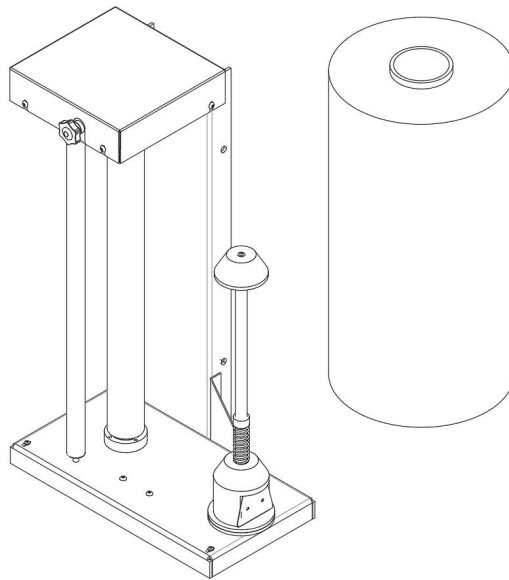

Figure 11
1. Load the film roll in the film carriage. (See Figure 11)